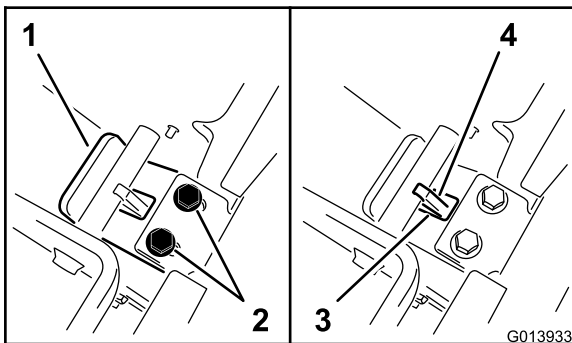

Figure 10
2. While maintaining the pressure on the back plate, slide the tongue toward you until the lip of the tongue plate contacts the crossbar (Figure 10).